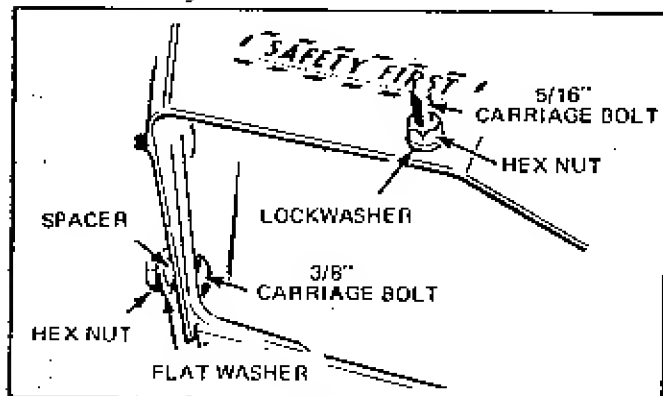
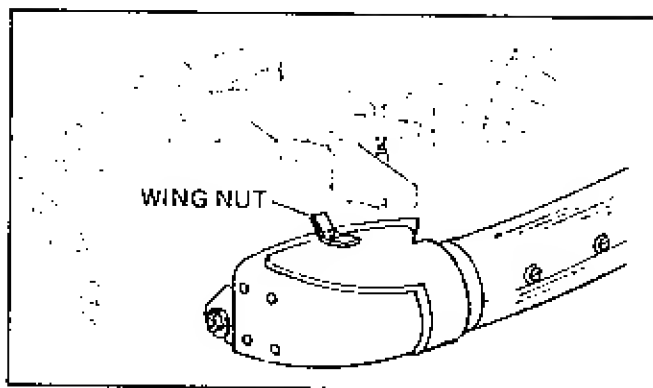

FIGURE 2
FIGURE 3
2. Install carriage bolts, hex nuts, spacer, and flat washer as illustrated in Figure 2.
3. Attach vacuum collector adapter to mower exhaust by hooking adapter between spacer and flat washer (Figure 2) and inserting upper carriage bolt through adapter hole. Tighten hex and wing nuts (Figure 3).